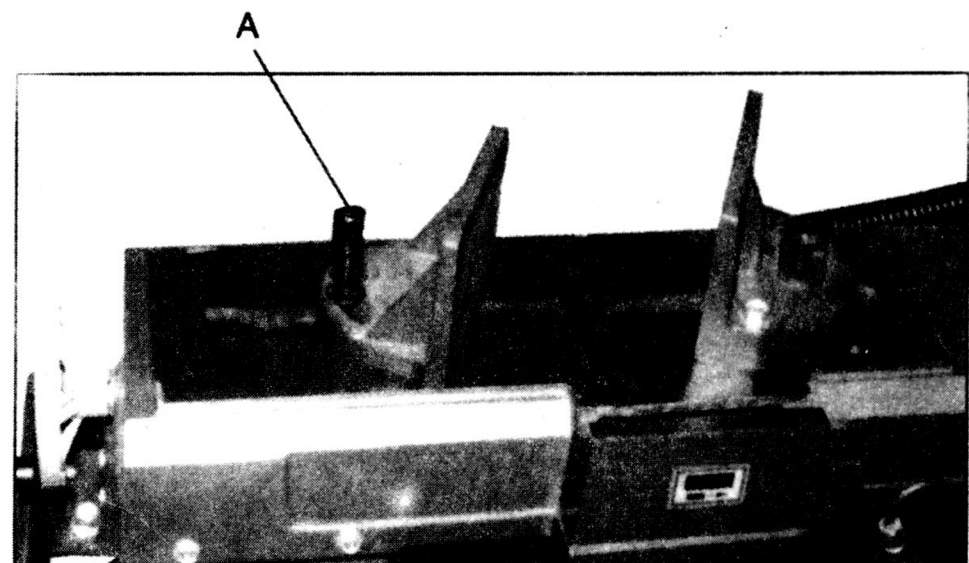

Fig.8
2. Position vise and re-install as pictured in Fig.8. Pay particular attention to bolt hole location.
4. Adjust movable vise parallel to fixed vise by loosening bolt (A, Fig.8), adjusting to parallel, and tightening bolt.